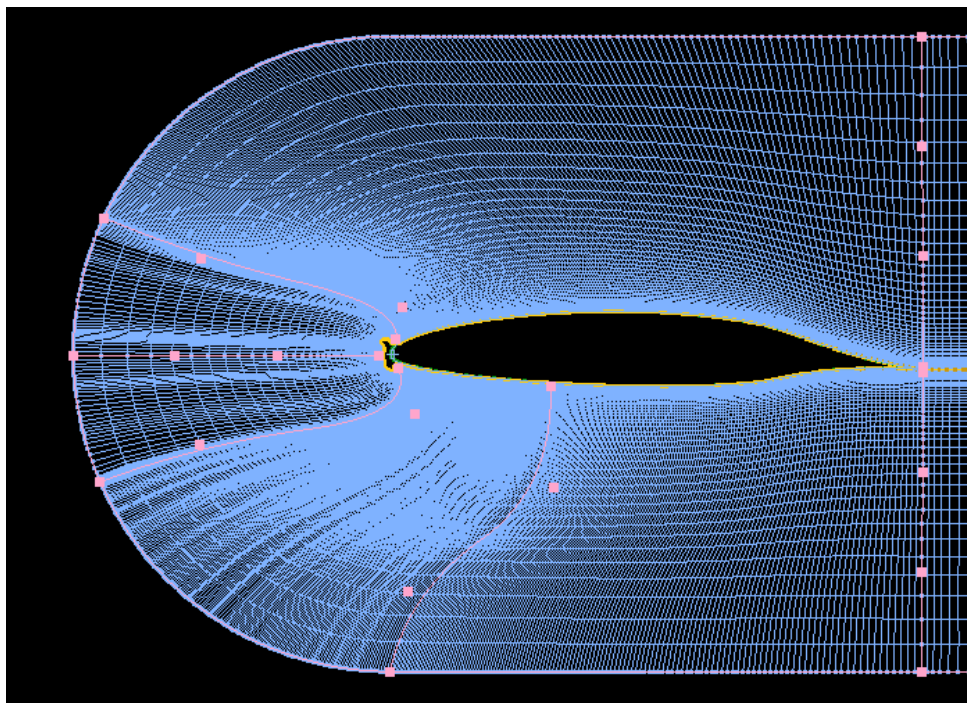
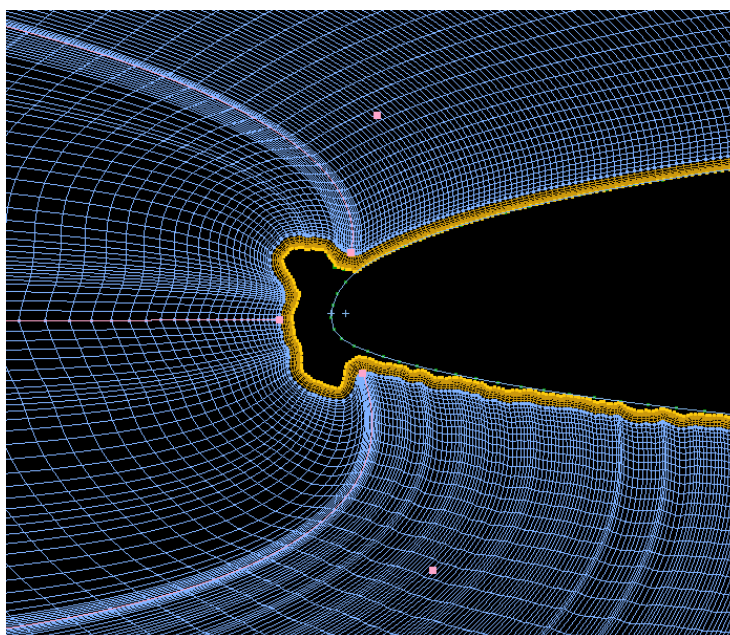

Figure 19. Radial cuts shaped using critical points.
Figure 20. Close up of radial cuts where they meet the JMAX boundary of the viscous sublayer.
- Move the critical points to approximate those shown below in Figure 19. Especially concentrate on the area near the iced airfoil, to make sure the cuts meet the airfoil at an angle close to 90 degrees. See the close-up in Figure 20 for details.